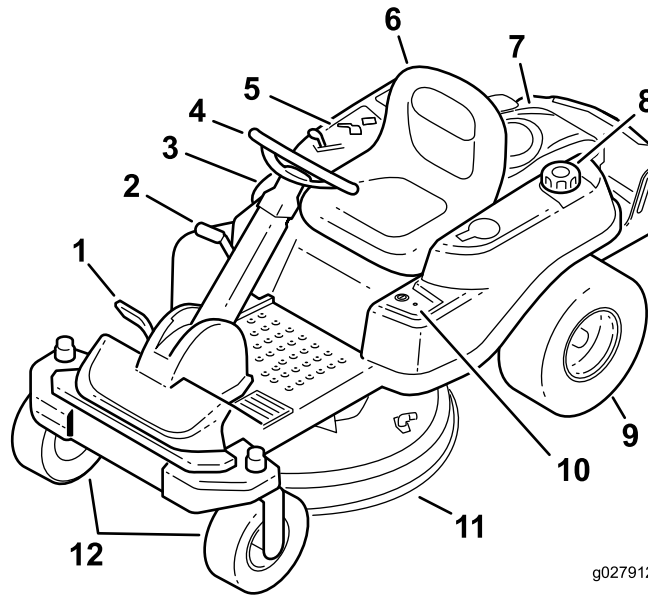
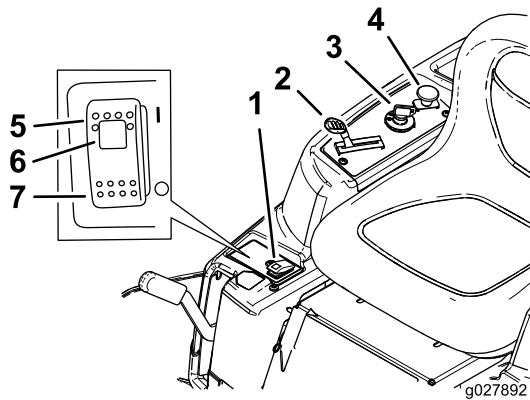
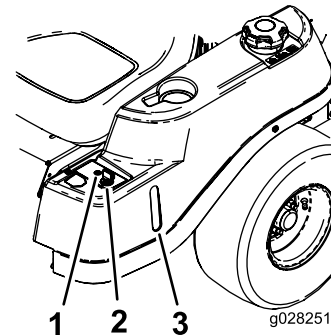

Figure 4
Figure 5
Figure 6
Become familiar with all controls in Figure 4, Figure 5, and Figure 6 before you start the engine and operate the machine.
The ignition switch has 3 positions—OFF, RUN and START. The key turns to the START position and moves back to the RUN position upon release. Turning the key to the OFF position stops the engine. Always remove the key when leaving the machine to prevent someone from accidentally starting the engine (Figure 5).
The throttle and choke are combined into 1 control lever. The throttle controls the engine speed and it has a continuous variable setting from SLOW to FAST. Engage the choke by moving the lever past the Fast setting until it stops (Figure 5).
The blade-control switch, (PTO), engages and disengages power to the mower blades (Figure 5).
Use the fuel window, located on the left side of the machine, to verify the presence of gasoline in the tank (Figure 6).
This switch allows you to mow in reverse when it is activated. To activate it, turn the switch to the ON position and release it after the PTO is engaged. To deactivate it, disengage the PTO (Figure 6).
- Press the SmartPark™ switch to the ON position (Figure 5).